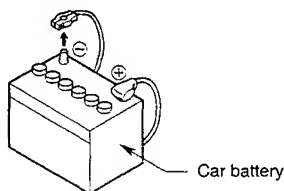

Figure 1
3. Be sure to disconnect the battery "⊖" terminal before starting. This is to prevent short circuits during installation. (Figure 1)